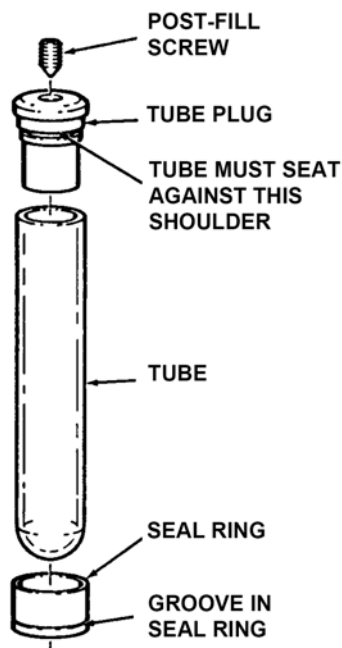

Figure 2-4. Tube and Sealing Assembly
4. Screw the threaded end of the tube removal tool into the tube plug. Insert the tube plug into the tube and use a gentle rocking motion to push it in place. The top edge of the tube should seat against the shoulder of the plug (figure 2-4).
12. Slide the seal ring onto the tube with the groove in the ring towards the bottom of the tube (figure 2-4). Push the ring up as far as it will go. During centrifugation this ring is forced tightly against the plug to form the seal.